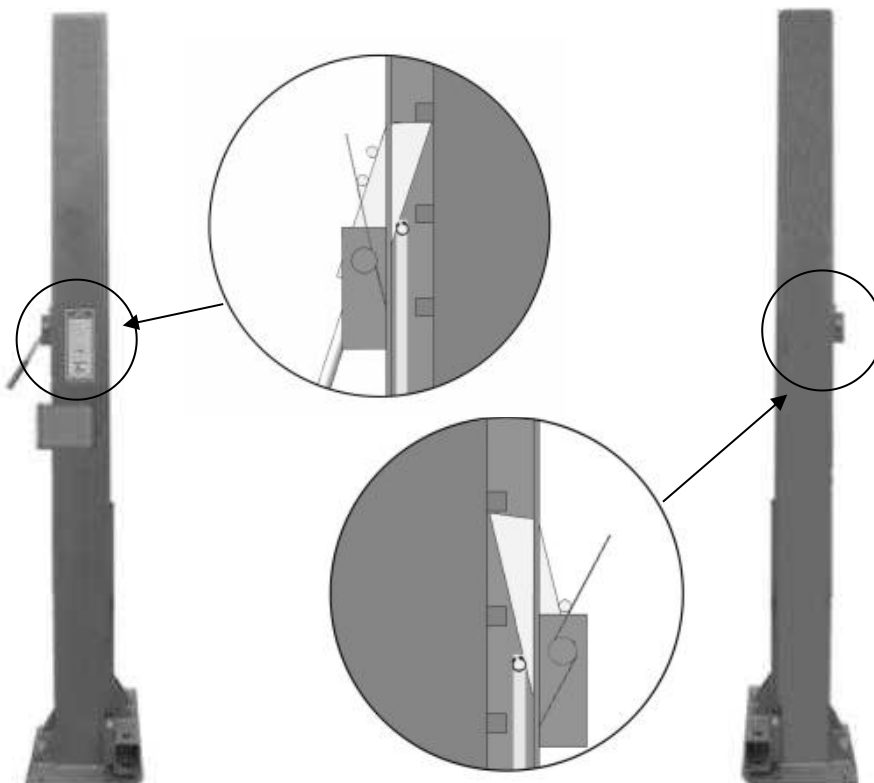

Fig.16
G. Lift the carriages up by hand and make them be locked at the same level (See Fig. 16).